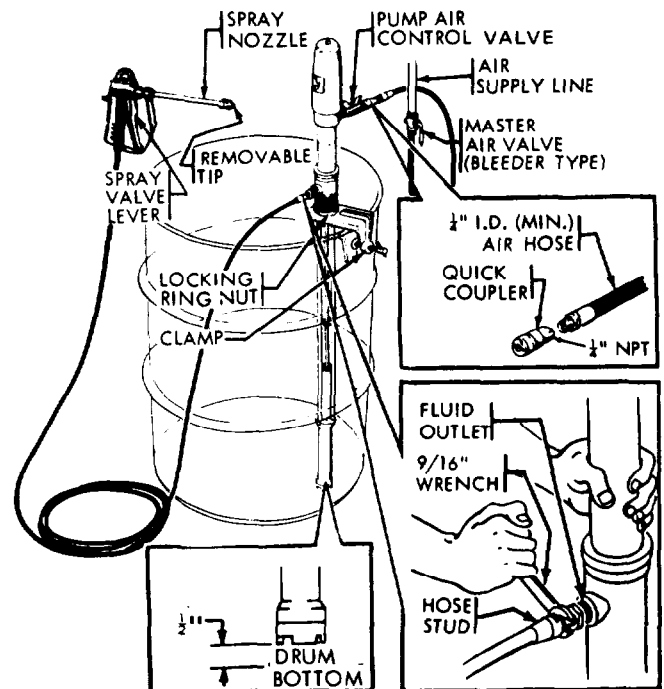

Fig 1
(1) Mount pump in fluid supply container with drum clamp provided as shown in Fig. 1, if an open drum. Screw pump into clamp (or bung bushing of closed drum) until it touches bottom, then back out ½ in. and tighten ring nut. Refer to Fig. 1. Vent plug in a closed drum should be loosened to prevent a vacuum from forming in drum.
(2) Screw bushing into pump fluid outlet and fluid hose into bushing with wrench applied to small hex of hose stud. Refer to Fig. 1. Use pipe sealant, at threaded connections.
(3) Screw air coupler pin fitting onto pump air control valve. Attach on air supply hose (at least ¼ in. I.D.) to ¼ in. n.p.t. (f) inlet of quick air coupler. Refer to Fig. 1.
(4) Provide a suitable water supply hose and spray valve for rinsing.